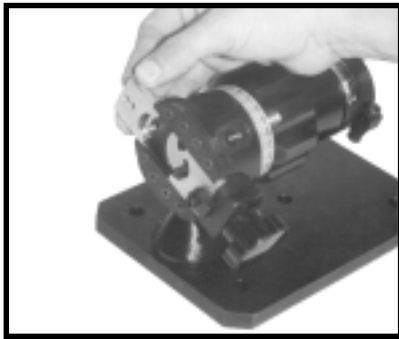

Figure 1
2. Slide shoes into open end of shoe slot. Shoe with one threaded hole installed first (Figure 1).